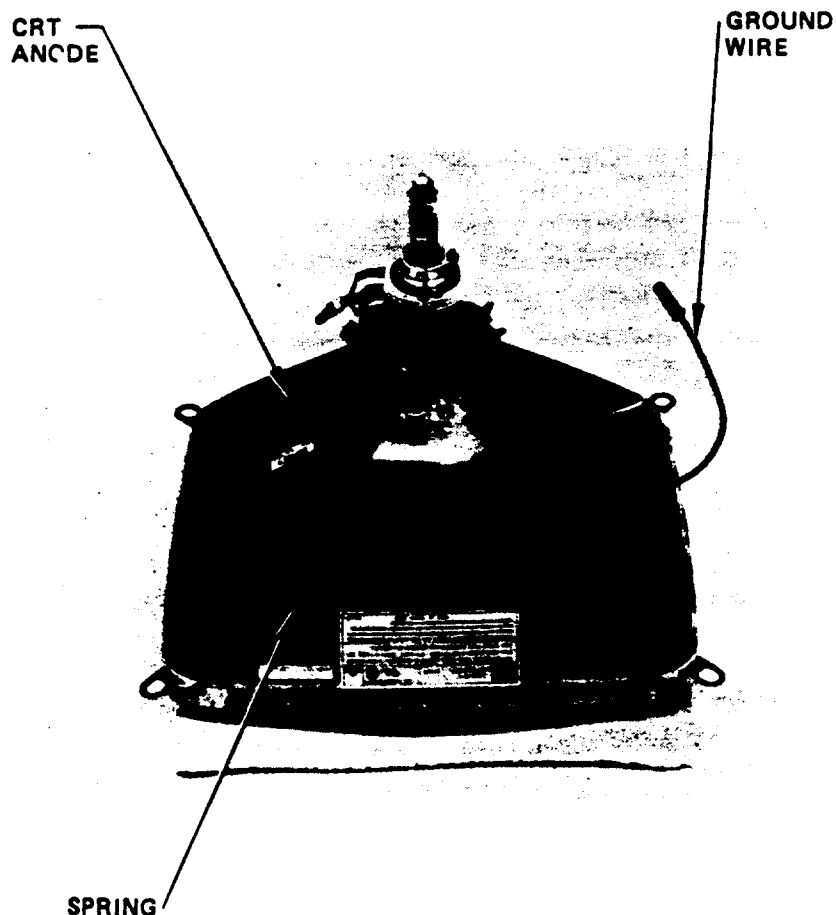

Figure 2-9. Locating and Installing the Ground Wire and Spring
7. Transfer the ground wire and spring assembly to the replacement CRT and Yoke assembly. Verify that the black ground wire is on the ground spring of the new CRT and Yoke assembly as shown in Figure 2-9.
To replace the CRT and Yoke Assembly repeat the removal instructions in reverse order. Note correct orientation of the ground wire as shown in Figure 2-9, and verify that the four rubber washers are not defective before installing the replacement CRT.